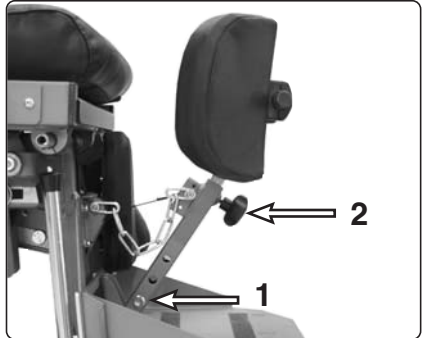

Fig. 11. Knee stops
1. Loosen the knee stops locking knob, see Fig. 11:2.
2. Move the traversing positioning screw on the leg rest to an appropriate position, see Fig. 11:1.